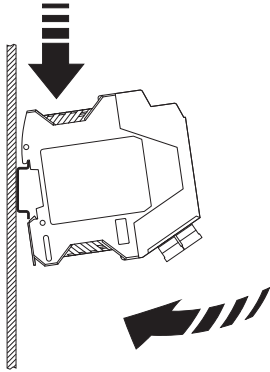

Figure 8 Assembly in the control cabinet
- Place the device onto the DIN rail from above. The upper holding keyway of the device must be hooked onto the top edge of the DIN rail (see Figure 8).